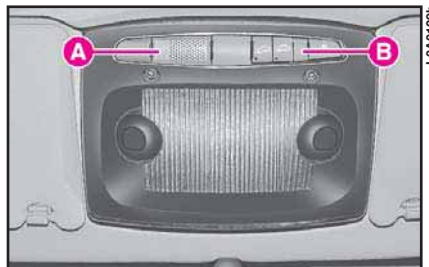

fig. 190
2) Remove front ceiling light caps **A** and **B** (fig. 190) by levering with a screwdriver on the outer side (the caps are press-fitted).